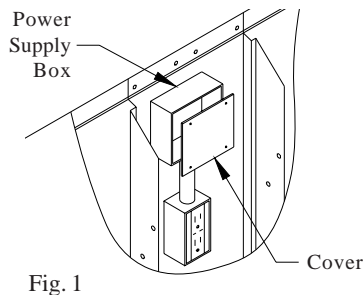

Fig. 1
- **Power Supply box.** The power supply box is located in the upper inside of the divider channel. Remove the cover to access wiring. (Fig. 1). Connect wiring in box to power supply wiring as per wiring diagrams.